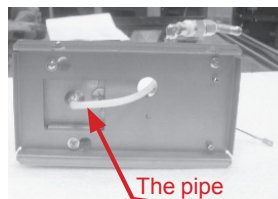

Figure 81
5. Place a container under the boiler and remove the pipe from the bottom of the boiler (figures 81, 82) by loosening the fixator screw. Then turn the machine ON and wait until all the water would be flushed from the boiler (until the water stops dripping).